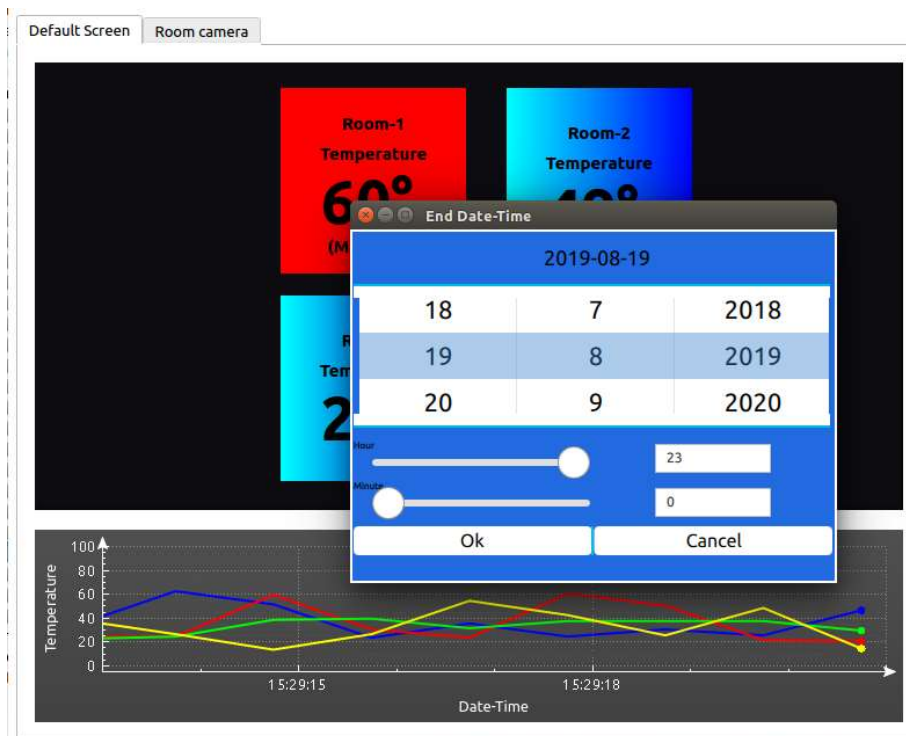

Figure 22 : Select DATE-TIME
**Select Date** (on right top) **widget** is useful for displaying all room's temperature on graph based on between start date-time and end date time. User can select data and time by Clicking **Calendar** button just right after **start data-time** and **end date-time** text area. (Figure 22)